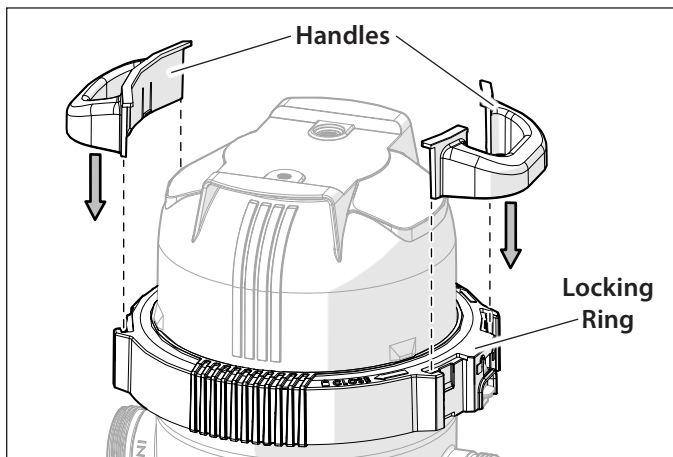

Figure 3. Handle Attachments
3. Attach the handles to the filter by sliding vertically into the slots in the locking ring (*Figure 3*). Press down until you hear the tabs click into place.